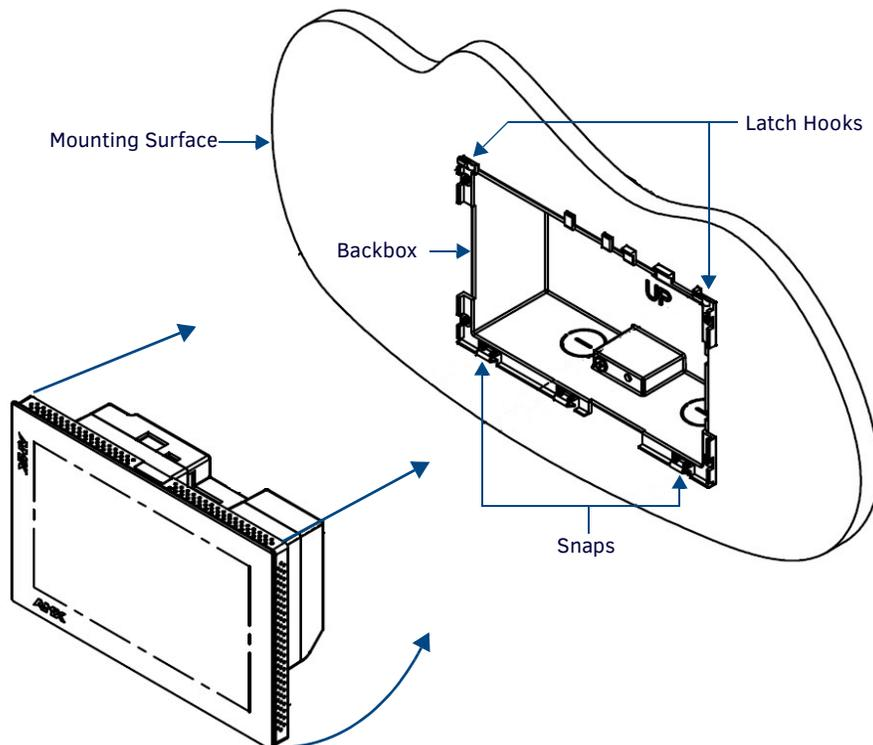

FIG. 46 Installing the MXD-1000 / MXD-700
9. Latch the panel onto the hooks on the Backbox. Push in on the bottom snaps (Landscape) or on the right (Portrait) gently but firmly until the snaps “click” to lock it down (FIG. 46).